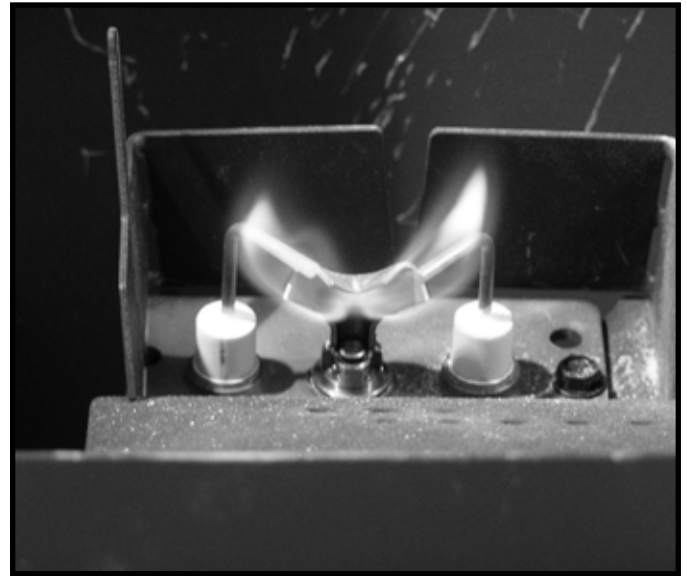

Figure 4.2 IPI Pilot Flame Patterns
- Inspect pilot flame pattern and strength. See Figures 4.2 and 4.3 for proper pilot flame pattern. Clean or replace orifice spud as necessary.